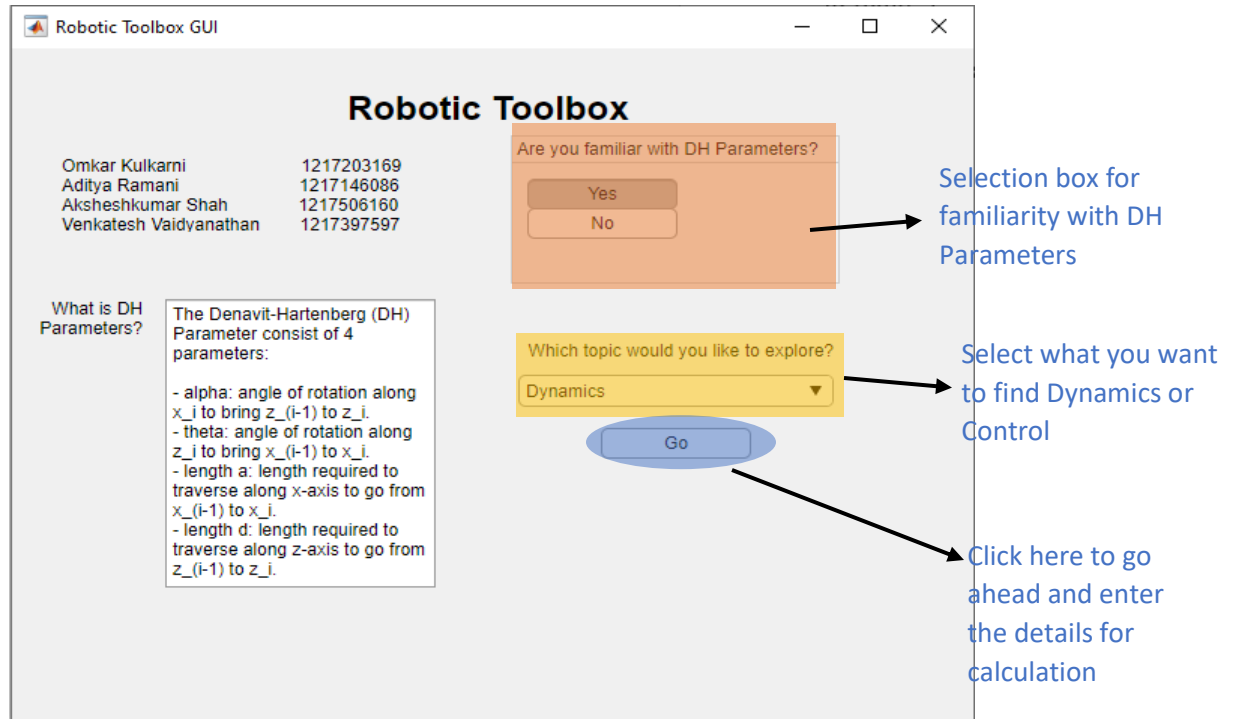

Figure 2.
Step 2. Once the toolbox is open as shown in the figure 2. Select yes if you are familiar with the DH parameters and No if you are not Familiar with DH parameters in the box that is highlighted with red color in the Figure 2.
Step 3. After selecting for DH parameters select what you want to solve Manipulator Dynamics/ Manipulator control in the space highlighted by yellow color in figure 2.
Step 4. Once the selection is done click on the go button highlighted by blue color in the figure 2.